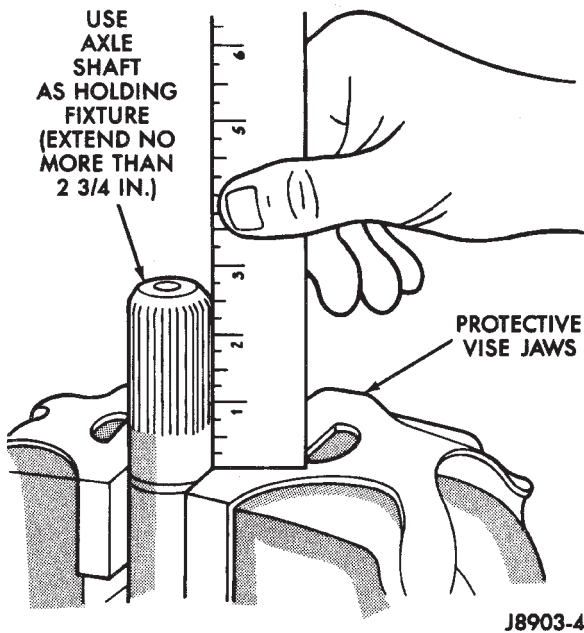

Fig. 3 Axle Shaft As Holding Fixture
(1) Clamp one axle shaft in a vise equipped with soft jaws (Fig. 3).